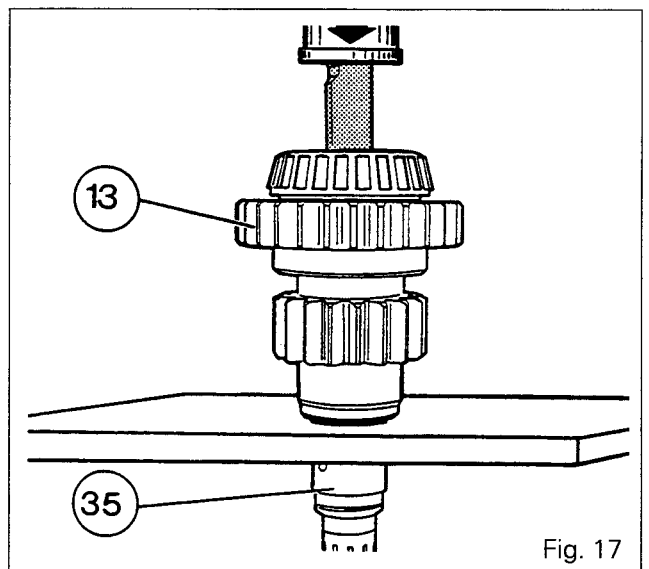

Fig. 17
106. Withdraw the pinion (13) and assemble on the shaft (35) (Fig. 17). Mount the washer (5) and bolt /6/. Tighten to a torque of 50 Nm.